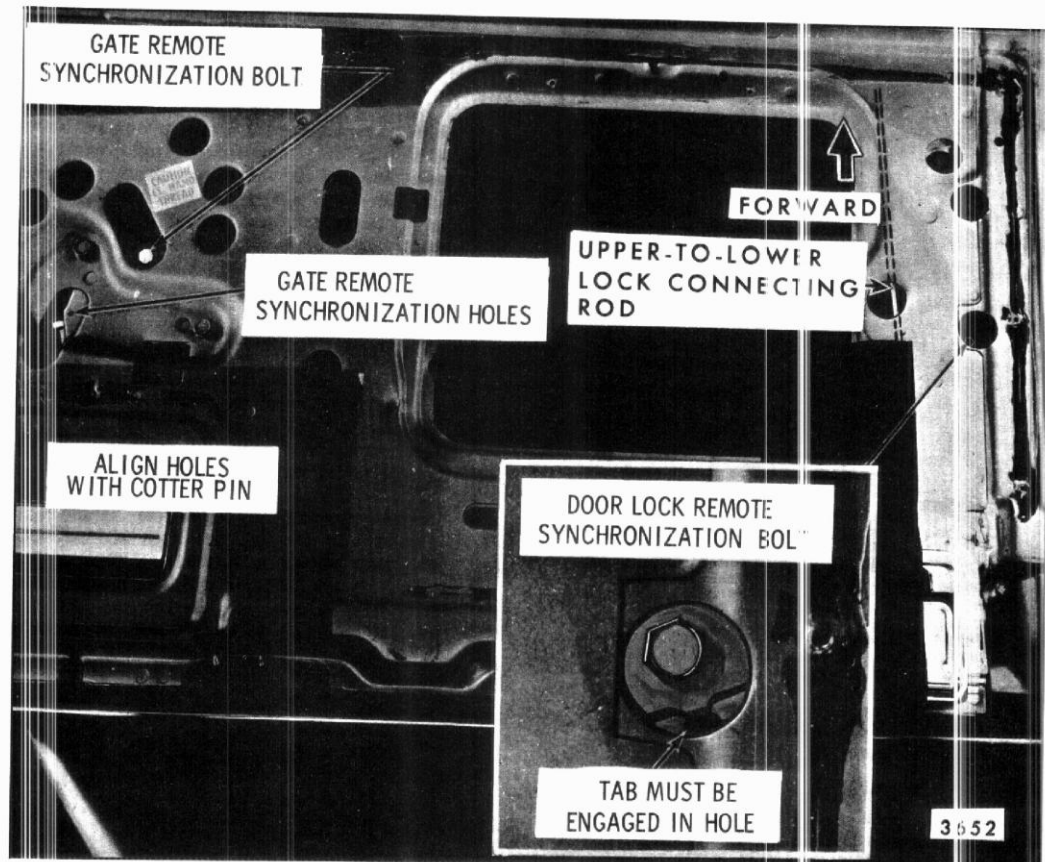

Fig. 9-22-Dual Acting Tail Gate Lock Synchronization Check
5. Connect all remote rods and tighten remote synchronization (adjusting) bolt (See Figure 9-22).
6. Remove pin from remote control synchronization (alignment) hole (See Figure 9-22) and activate tail gate inside remote control handle (gate operation) to unlock upper right and left locks that were manually locked.
2. Loosen lower lock to upper lock connecting rod synchronization (adjusting) bolt located on upper lock (Figure 9-22).